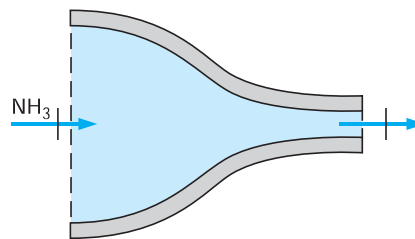

FIGURE P6.25
- 6.25** Superheated vapor ammonia enters an insulated nozzle at 20°C, 800 kPa, as shown in Fig. P6.25, with a low velocity and at a steady rate of 0.01 kg/s. The ammonia exits at 300 kPa with a velocity of 450 m/s. Determine the temperature (or quality, if saturated) and the exit area of the nozzle.